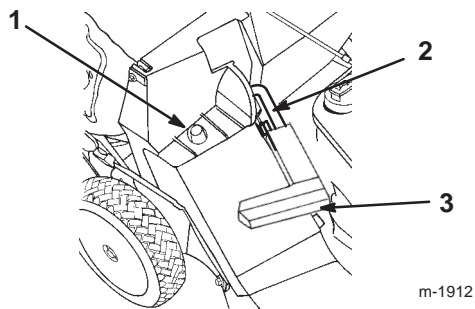

Figure 17
2. Ensure that the discharge door handle is fully forward and that the pin is engaged in the catch (Fig. 17).
3. Slide the hole in the bag frame onto the retaining post on the discharge tunnel (Fig. 17).
2. Raise the discharge door handle and move it forward to engage the pin with the catch (Fig. 17).